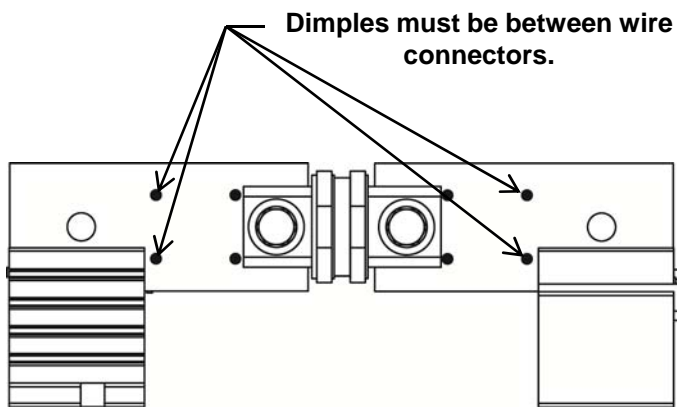

Fig. 5
- Insert "T" Fuse assembly into fuse clip assemblies until seated as shown in Fig 5 & 6.